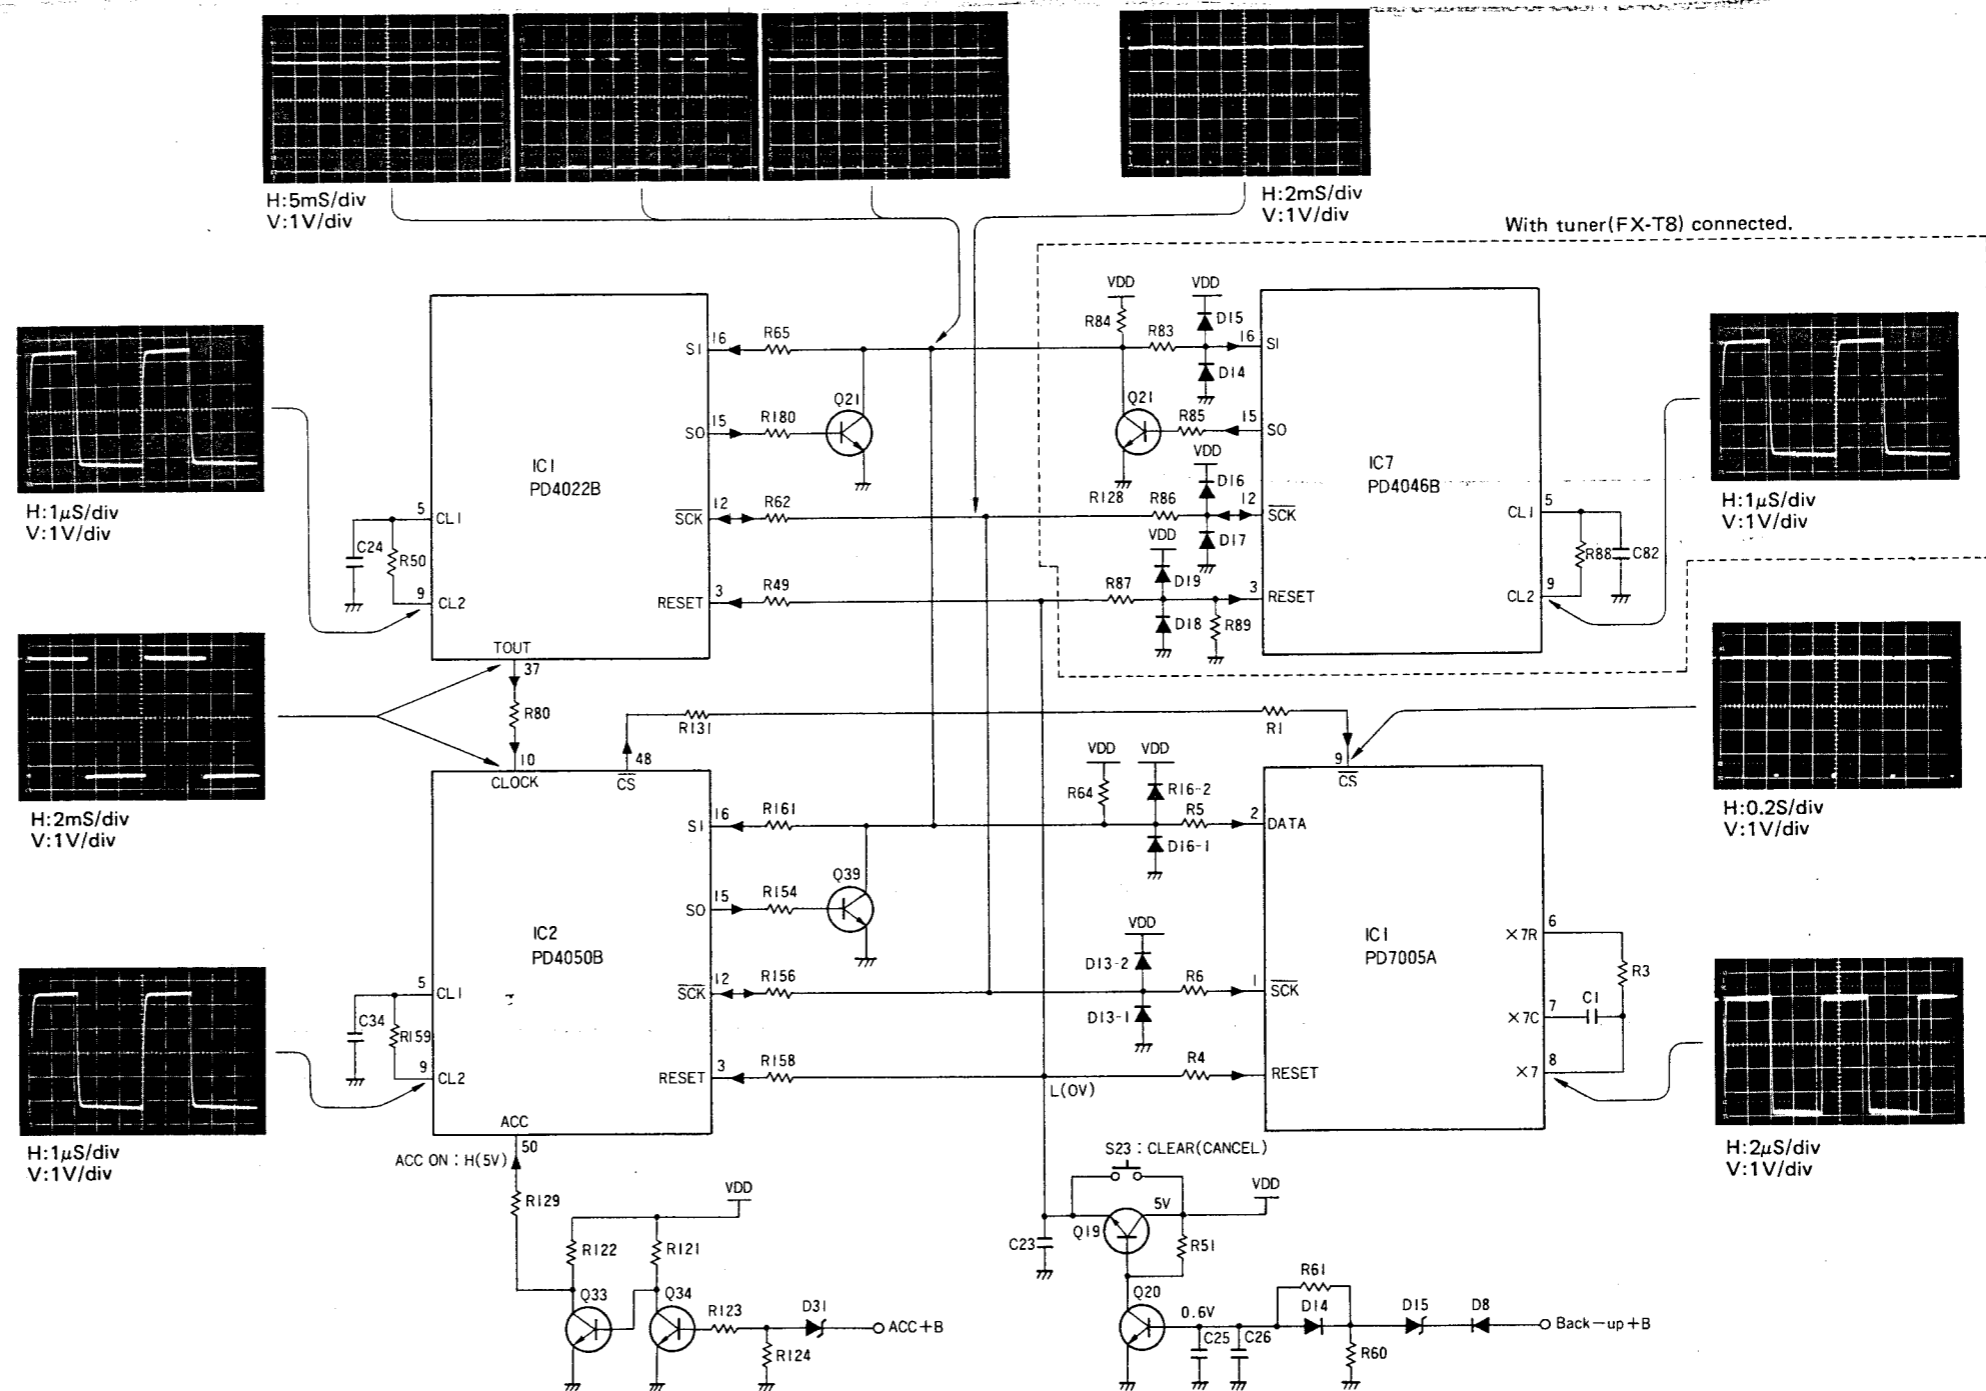

Fig. 24 Basic circuit for operating the system
9.3 BASIC CIRCUIT FOR OPERATING THE SYSTEM (Fig. 24)